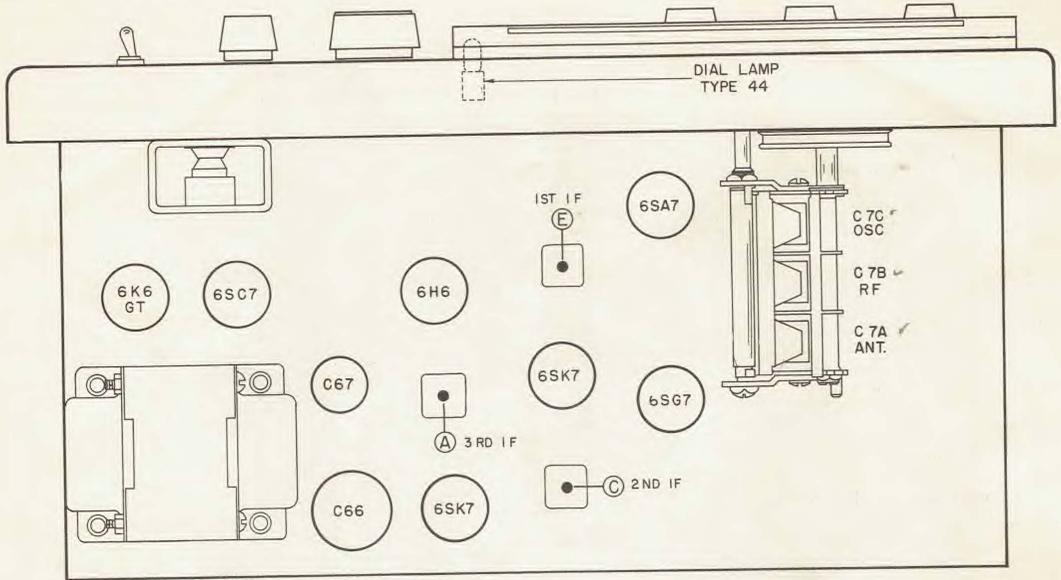

Fig. 4. Top View of Chassis Showing Location of Alignment Adjustments, Tubes and Dial Lamp
- Refer to Figs. 4 and 5 for location of alignment adjustments.